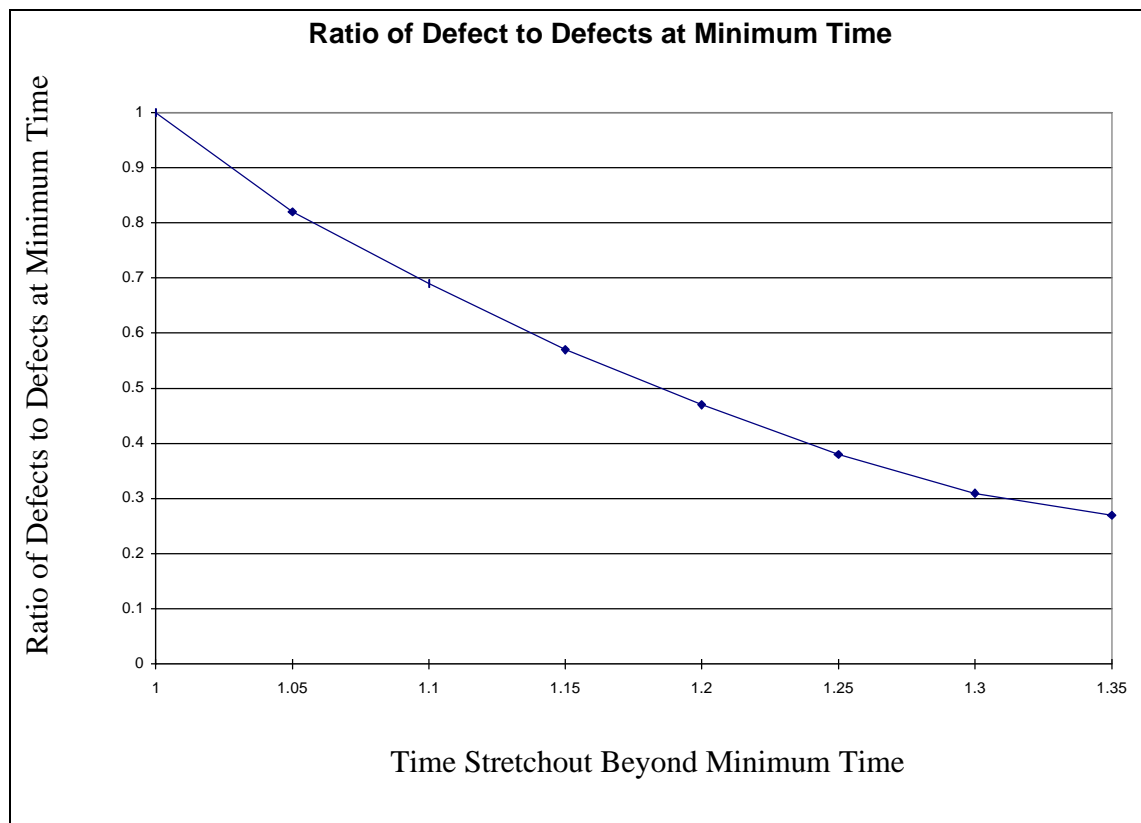

Figure 3. Lengthening the schedule beyond the minimum development time effects a marked reduction in the number of defects.
*Time.* You can reduce effort and employ smaller teams by planning a development time greater than the minimum development time, as we have discussed in previous columns. Planning three more months on a project with a minimum development time of 12 months, for instance, amounts to a 25 percent increase in schedule. That reduces the defects to less than half of what they would have been at the minimum development time, as shown on Figure 3. Really, this tradeoff is just common sense. When people are rushed, and that is the case at the minimum development time, they make more errors. That's how the male half of the development community nick their faces shaving!